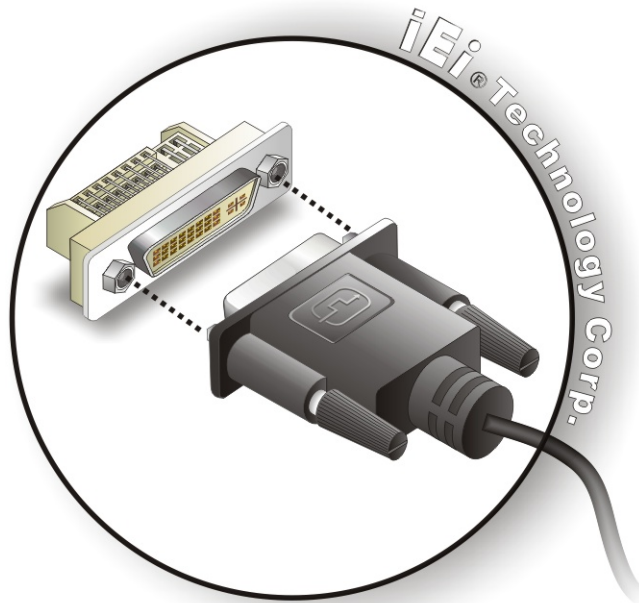

Figure 4-15: DVI Connector
Step 7: Insert the DVI-D connector Once the connectors are properly aligned with the male connector, insert the male connector from the digital display device into the female connector on the KINO-945GSE3. See Figure 4-15.